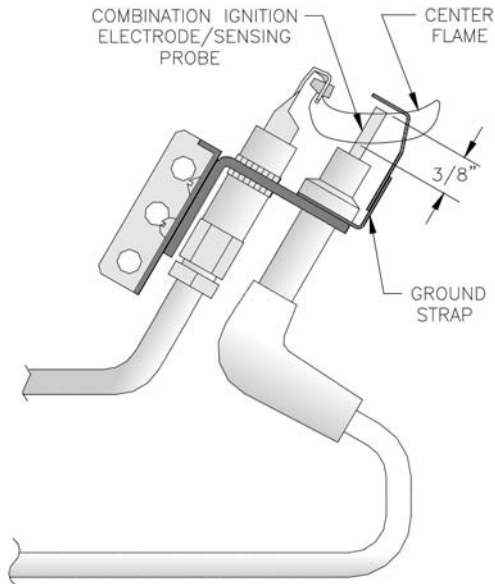

Figure 24: Pilot Burner Flame
F. Check pilot burner flame. See Figure 24. Flame should be steady, medium hard blue enveloping 3/8 to 1/2 inch of sensing probe.